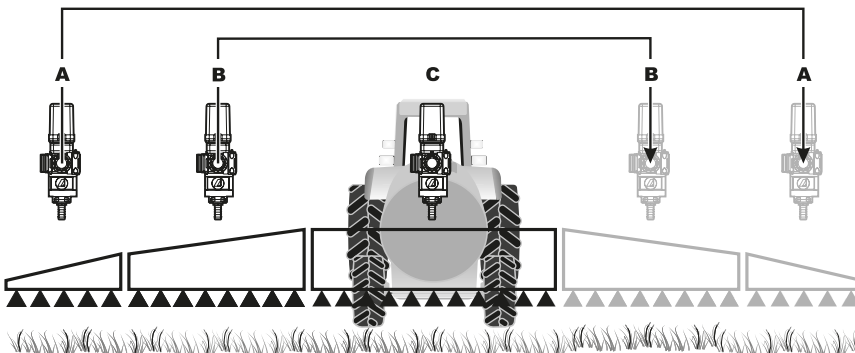

Fig. 5
• **There is a SYMMETRICAL number of nozzles for each section valve (Fig. 5)**
Carry out the adjustment procedure only for one side of the control unit (right or left boom, valves A, B, C): to adjust the other boom side, turn the knobs of metered by-passes in the same way, matching the valves (Fig. 5).